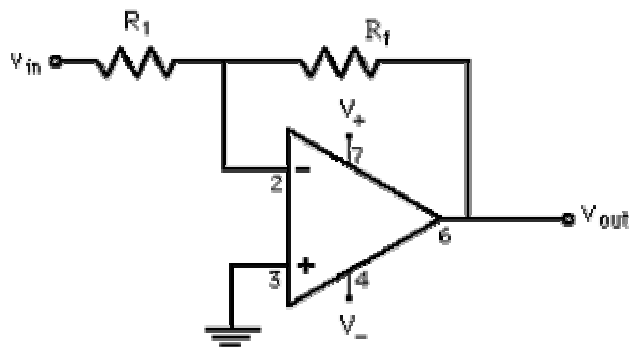
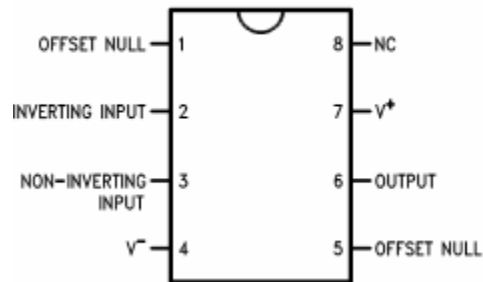

Figure 3: Inverting amplifier with the non-inverting (+) terminal grounded
Figure 7: Pin out assignments for the LM741 Operational Amplifier
in inverted. The common inverting amplifier is shown in Figure 3. The analysis of this amplifier follows the same logic as the non-inverting amplifier. The input terminals need to have zero difference between them, so there has to be zero volts at the inverting terminal (-) due to the fact that the non-inverting terminal (+) is grounded. This leads to the node equation of $\frac{V_{in}}{R_1} = \frac{-V_{out}}{R_f}$. Notice that the negative sign appears in this equation and not in the non-inverting case. Solving this equation, the transfer function comes out $A = \frac{V_{out}}{V_{in}} = \frac{-R_f}{R_1}$.
4. Simulate the circuit of Figure 3 for gain values of 1, 10, and 100 for values of frequency between 10 Hz and 100 MHz. Comment on the gain-bandwidth product and the 'cutoff' frequencies. Obtain printouts of the gain vs. frequency curves for each value of gain.
1. Construct the circuit of Figure 3 with a gain of 2. Make sure that the op amp is powered with connections to pin 4 (-15 V) and pin 7 (+15 V). The pin out assignment is shown in Figure 7 for the LM741 Operational Amplifier.
1. Construct the circuit of Figure 3.